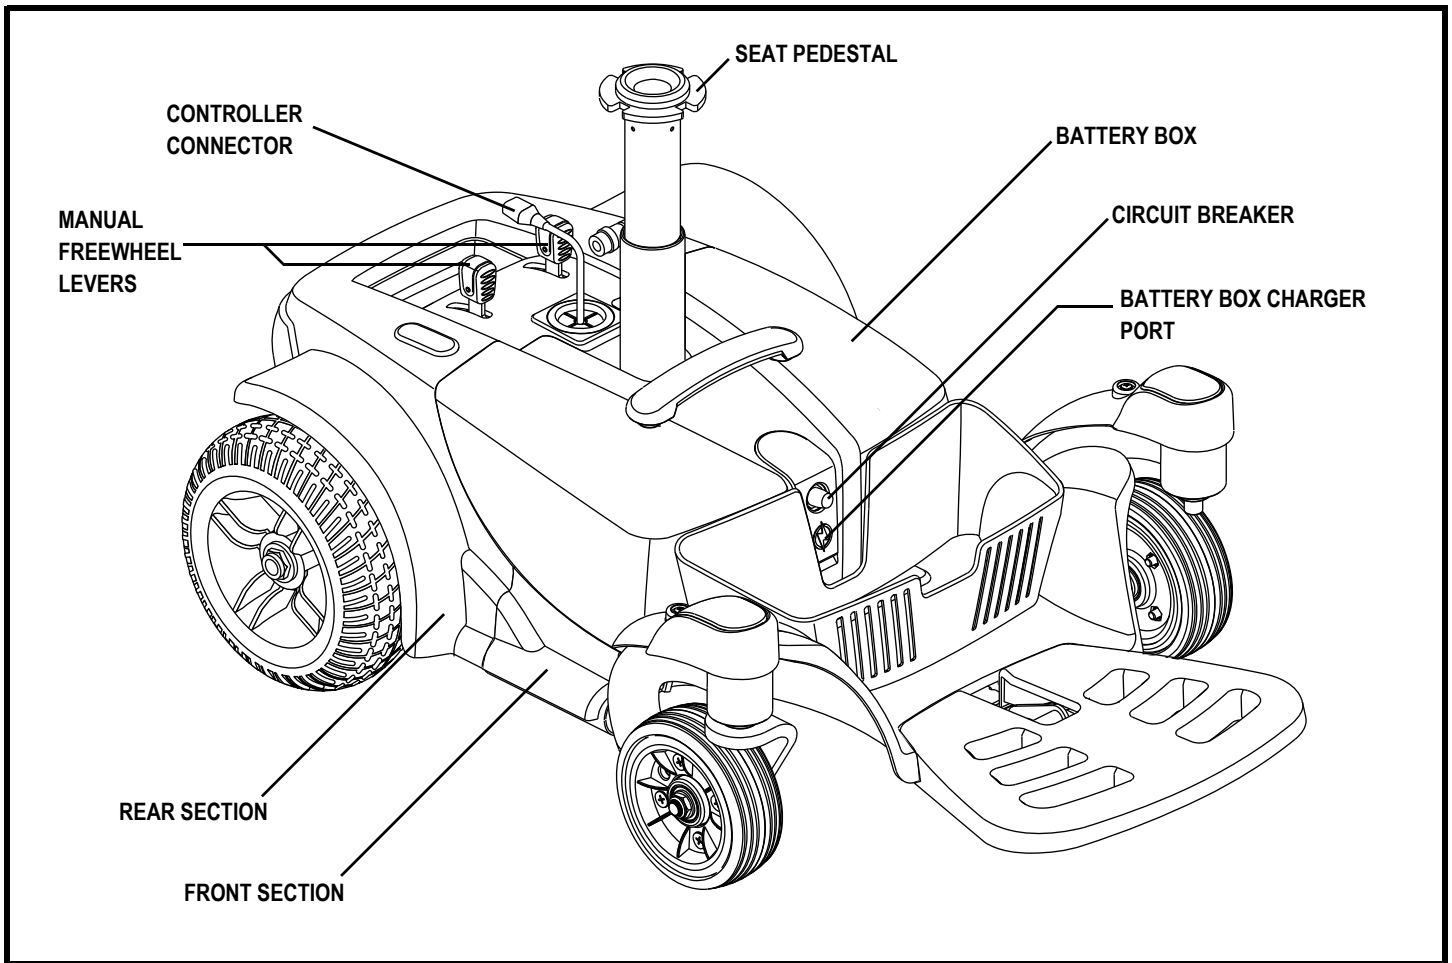

Figure 2. The Go-Chair Power Base
The electrical components are located on the power base. The main circuit breaker is located on the front of the battery box. The controller connector is located on the back of the power base. **See figure 2.**
7. Install the seat and plug the controller into the power base. See figure 2.